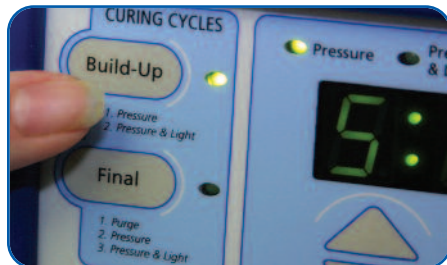

Fig. 4
6. Cure in the *Sculpture* Curing Light using the Build-up cycle. (Fig. 4)